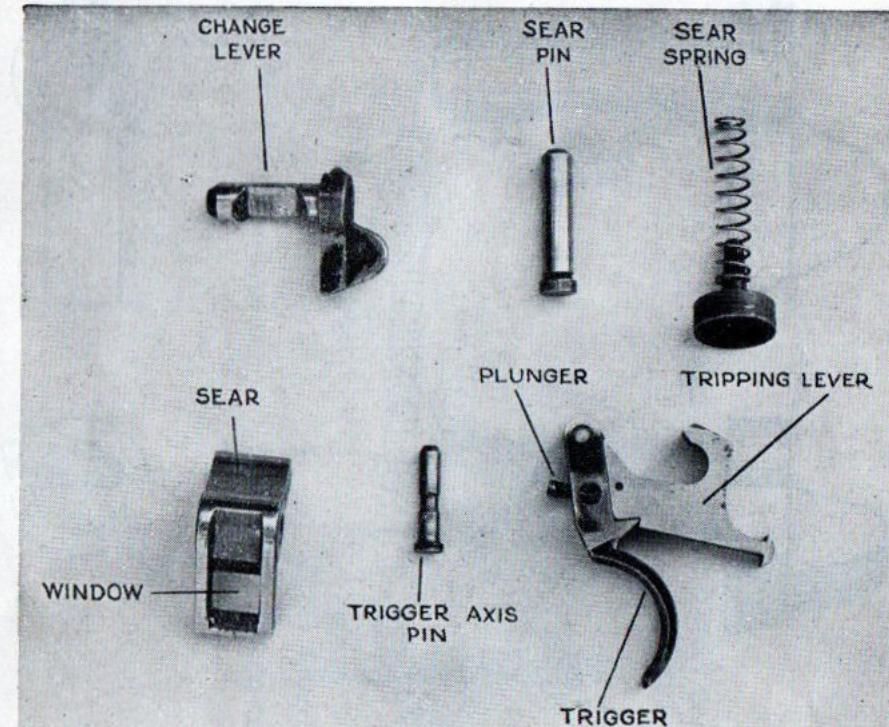

Fig 25.—The trigger group
7. The trigger group (see Fig 25):—